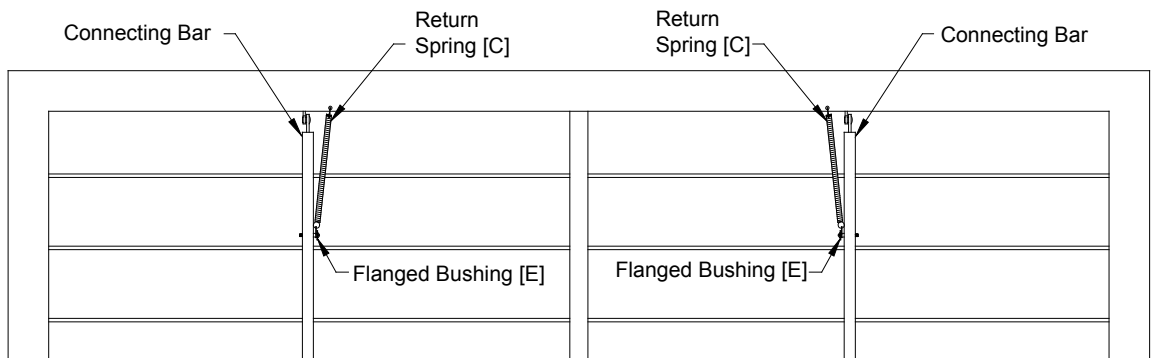

Figure 12
Hook one end loop of Spring [C] on (1) 'S' Hook [D] and pinch hook closed. Hook other end loop of same Spring [C] on a second 'S' Hook [D] and pinch closed. Connect hook on one end of spring assembly through $\frac{1}{8}$ " diameter hole in frame and stretch spring to connect other hook over Bushing [E]. Repeat for second Spring [C]. See Figure 12.